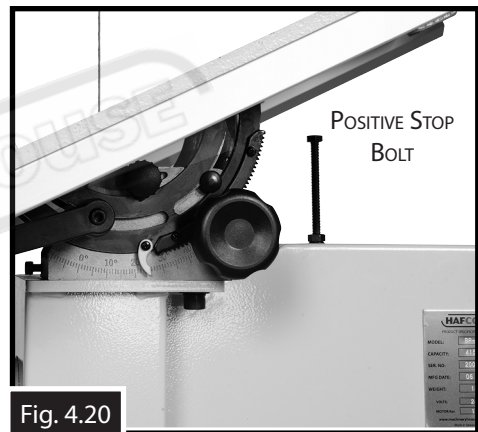

Fig. 4.20
5. Adjust the positive stop bolt to the table. (Fig. 4.20)